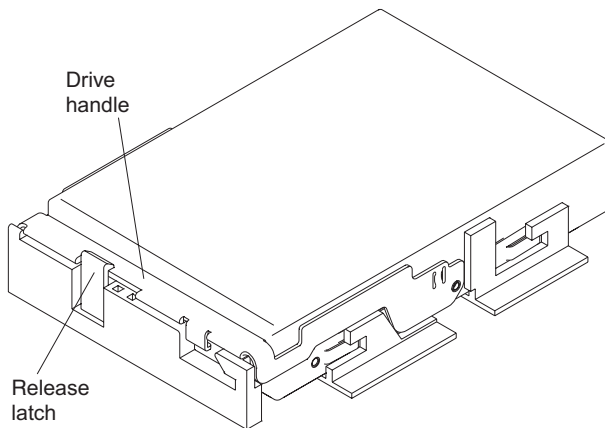

Figure 77. Locking the drive in place
- c. Lower the drive straight down; then, rotate the drive handle down until the drive snaps into place under the drive release lever. See Figure 77.